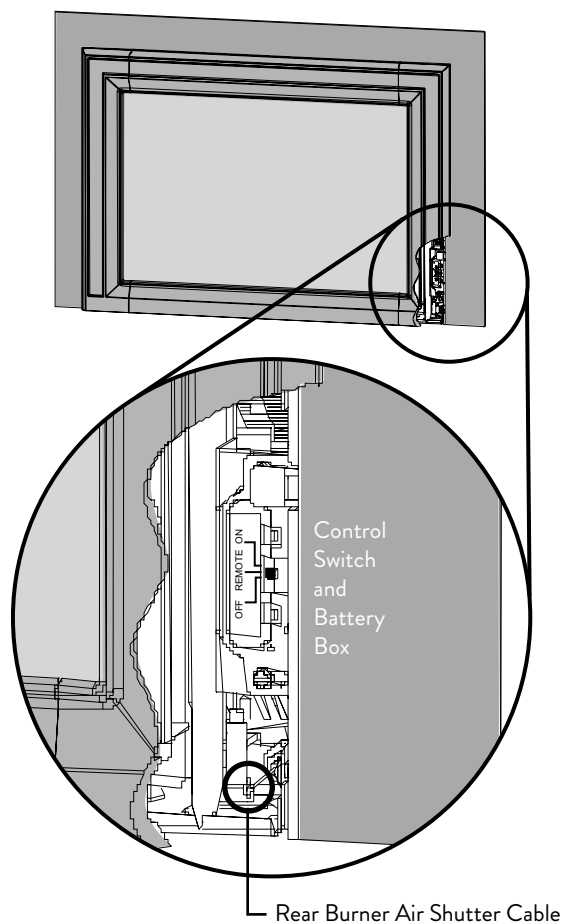
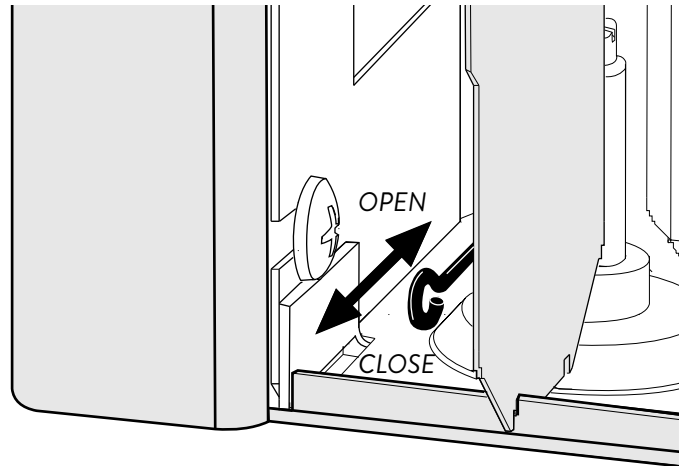

Figure 68. Fireplace Control Switch / Battery Box location.
Figure 69. Front Burner Air Shutter Cable location - Left-side Compartment.
1. **Battery Installation:** In the event of a power failure, install the four, 1.5v AA batteries into the IFC Back-up battery box in the right side firebox compartment. See Fig. 68. Do not leave them in the battery box permanently as the box will corrode.
The volume of air supplied to the front and rear burners is regulated by individual air shutters which are controlled in turn by cables located at the each side of the firebox. The right cable controls the Rear Burner air (fig. 68) and the left cable controls the Front Burner air (fig. 69).